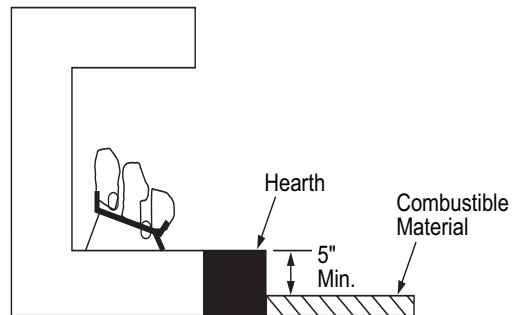

Figure 7 - Minimum Fireplace Clearances Above Combustible Flooring
B. If combustible materials are less than 14" to the fireplace, you must install appliance at least 5" above the combustible flooring (see Figure 7).